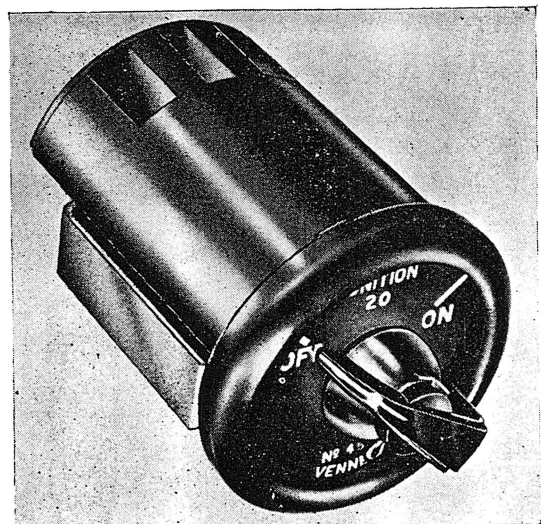

Fig. 1. Time switch, Type PTC/DH/20
3. The switch (*fig. 1 and 2*) consists of a clockwork mechanism, with a specially shaped escape wheel, an operating cam, a resetting cam, a cam follower and an operating centre spindle. There are three electrical contacts in the switch, one